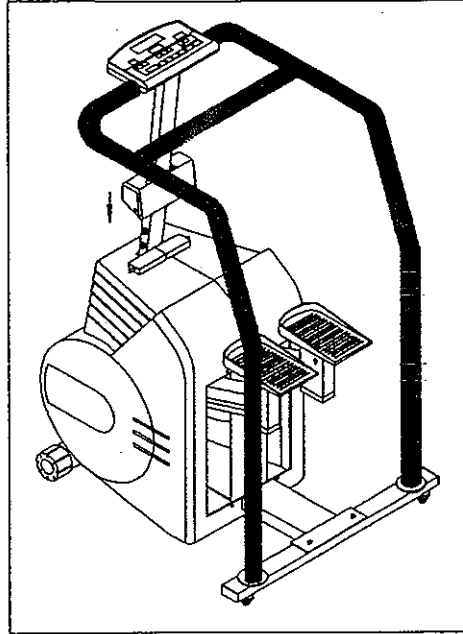

Fig.25
11. Replace the post shroud, secure with two screws (see Fig. 25 & 26).